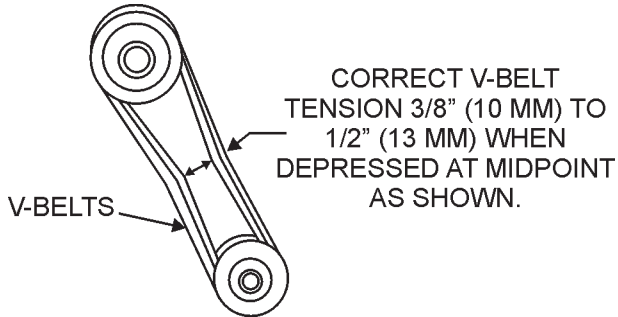

Figure 16. V-Belt Tension
3. Check V-belt tension (Figure 16) by using a tension meter (6.0 - 9.0 lbs) against the inside belt at a mid point between the two pulleys, or by deflecting the center belt at a mid point 3/8" (10mm) - 1/2" (13mm).